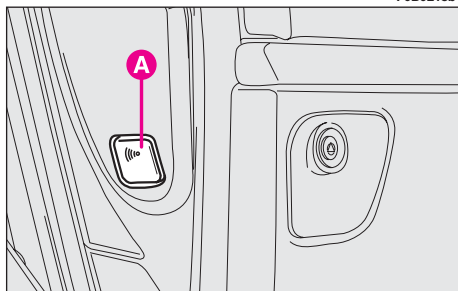

fig. 10
Before turning on the alarm system, press button **A-fig. 10**, which can be reached when the door is open, and red led **A-fig. 9**, placed on the instrument panel, will light up.
- within 10 seconds, from when the siren sounds, turn the ignition key to **M** and then press button **A-fig. 10**. The siren will be switched off.